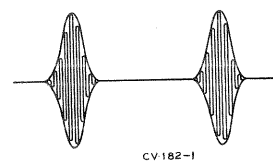

Figure 34—Burst
**NOTE:** The Burst signal should be observed at this point. To do this, connect the wideband oscilloscope to pins 1-2 of the phase detector V130B. Check the burst signal, it should conform to figure 34. The burst signal should not change shape when rotating the horizontal hold control over its holding range. Remove the oscilloscope.